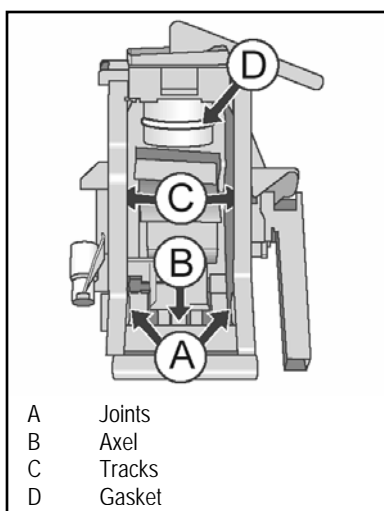

Figure 5-22: Brew Unit Lubrication Points
2. Refer to Figure 5-22, lubricate the following: